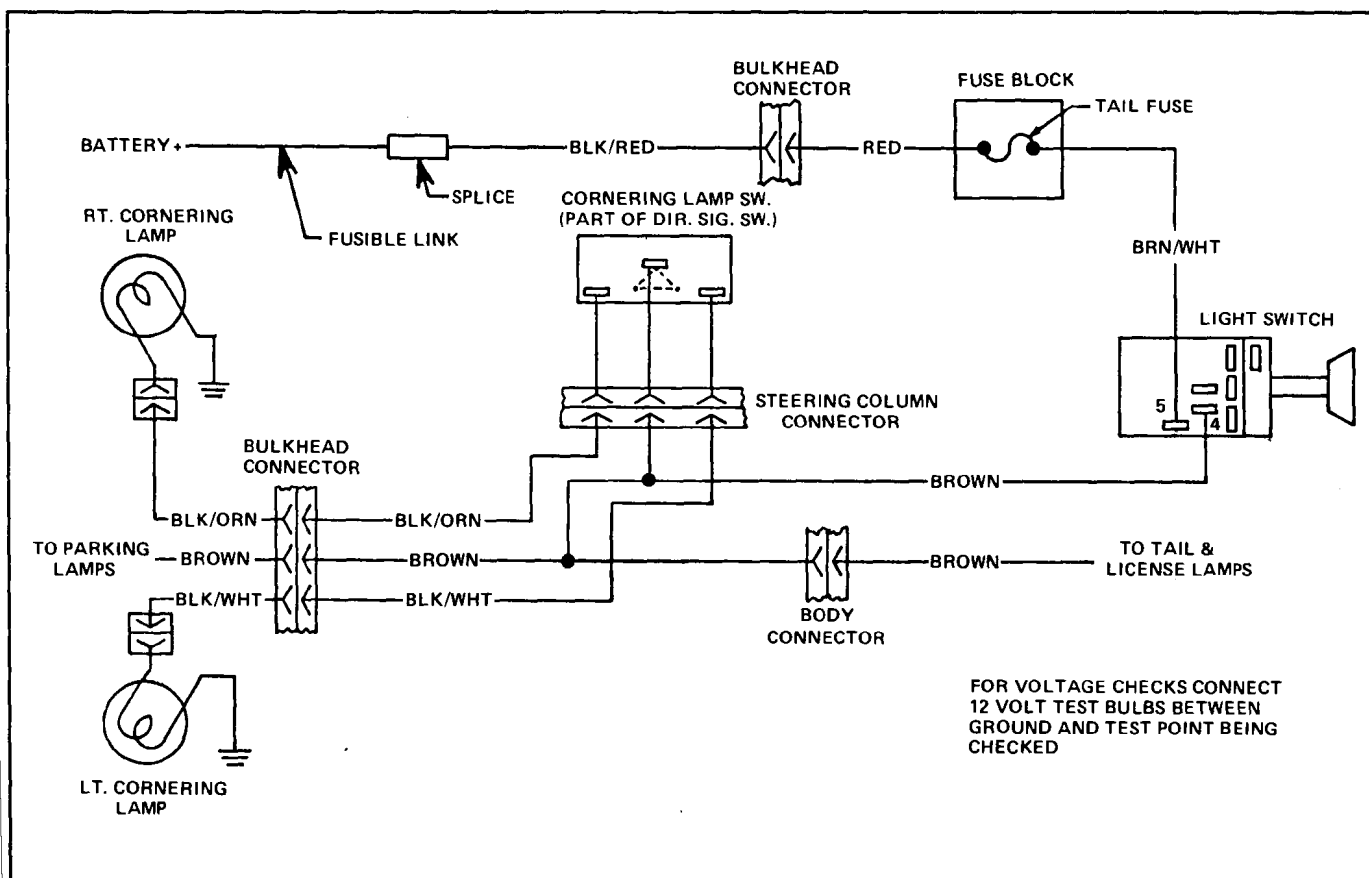

Fig. 12-18 Cornering Lamp Circuit
*See cornering lamp circuit (Fig. 12-18).